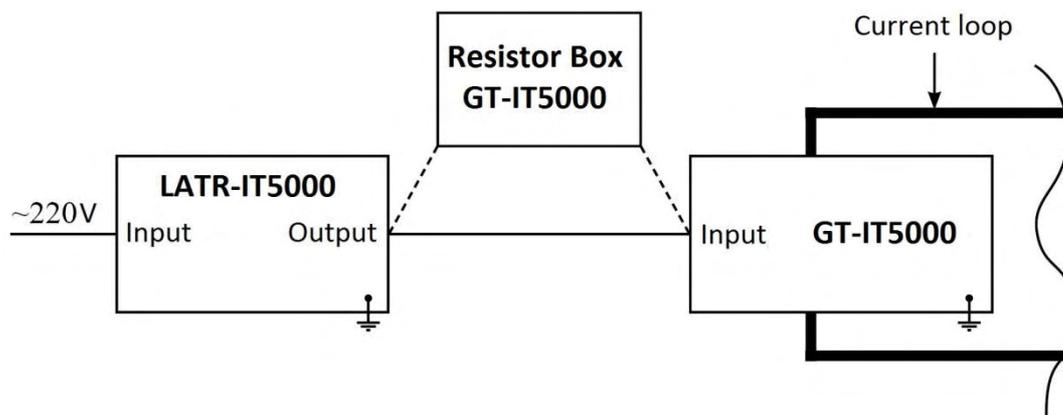
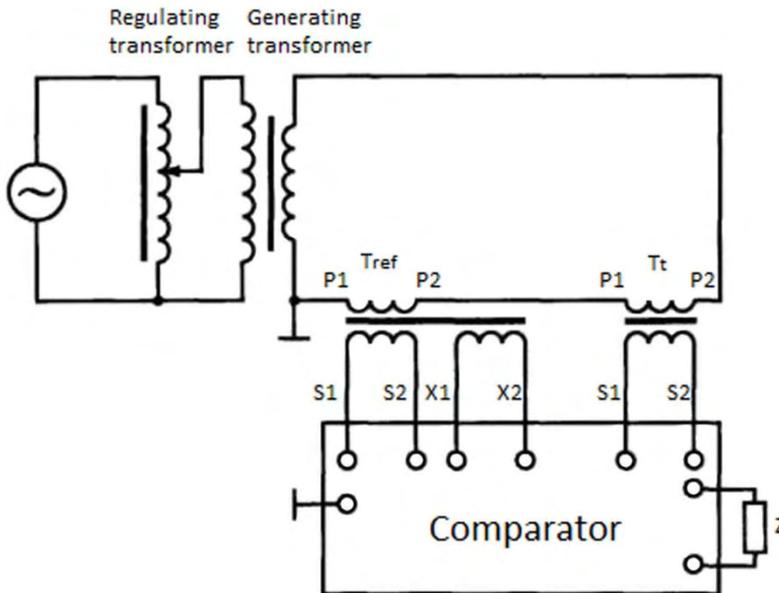

Fig.1. Connection diagram
Fig. 2. Transformer test system based on comparison method
A connection diagram of the unit is given in Fig. 1. The LATR-IT5000 regulating transformer is connected to a 220V (AC) power supply. The “Output” female connector of LATR-IT5000 is connected to the “Input” male connector of the generating transformer GT-IT5000 via the cable LATR-GT. Cables marked K-240, K-120, K-50, and K-16 are used as primary conductor cables to form an external primary winding (current loop). One of these cables is passed through the side hole in the GT-IT5000 module and connected to the primaries of instrument current transformers. When testing the CT at 1% and 5% test points (250, 200, and 150A currents), LATR-IT5000 and GT-IT5000 are connected via the Resistor box GT-IT5000.
1) Make connections to the IT5000 modules as shown in Fig.1. Make connections among the test system components as per wiring diagram shown in Fig. 2.